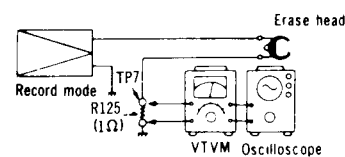
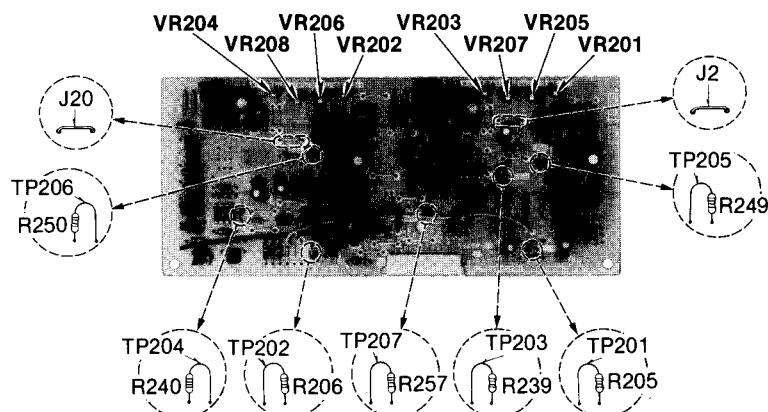

Fig. 11
Fig. 2
A Head position adjustment Condition: • Playback and pause mode	(The head adjusting plate is provided to adjust the tape touch of the head in cue or review mode.) 1 Press the playback button and pause button 2 Measure the space between the pressure roller and the capstan. Standard value: 0.5 ± 0.3 mm 3 If the measured value is not within the standard value, untighten screw (A), and slide the head adjusting plate in the direction of arrow (B) for adjustment.  Fig. 2
F Erase current Condition: - Record mode - Metal tape mode Equipment: - VTVM - Oscilloscope	- Test equipment connection is shown in fig. 11. - Place UNIT into metal tape mode. - Press the record and pause buttons. - Read voltage on VTVM and calculate erase current by following formula: $\text{Erase current (A)} = \frac{\text{Voltage across both ends of R125}}{1 (\Omega)}$ Standard value: 155 ± 15 mA (Metal position) 5. If measured value is not within standard, adjust as follows. Adjustment - Short the points (b) and (c) on the main circuit board diagram (see page 25). - Make measurement for erase current. - Make sure that the measured value is within the erase current of 140 mA to 170 mA. - If measured value is not within standard, short or open connection points (b) and (c) for adjustment (see table 2). Reference value: around 70 mA (Normal position) around 95 mA (CrO₂ position)
② Adjustment of VCA Condition: • Record stop mode • Input level controls ... MAX • Noise reduction selector ... disc/dbx tape Equipment: • VTVM • Oscilloscope • Resistor (100Ω, 3.9Ω)	Preparation before adjustment 1. Before adjusting VCA, from the device shown below using resistors of 100Ω and 3.9Ω (See fig. 8). 2. Set NR switch to dbx disc. Remove jumpers [J2 (L-CH) and J20 (R-CH)]. 3. Arrange connections referring to wire connection diagram (fig. 9 and 10), since 0V, +180mV and -180mV (DC) are applied in this order to pin 2 of IC201 (L-CH) and pin 2 of IC202 (R-CH).  Fig. 8  Fig. 9  Fig. 10 Connections when applying +180mV and 0V Adjust DC power supply and arrange connections so that +180mV or 0V can be applied to TP203 (L-CH) and TP204 (R-CH). Connections when applying -180mV Adjust DC power supply and arrange connections so that -180mV can be applied to TP203 (L-CH) and TP204 (R-CH). Adjustment procedure 1. Apply 0V to pin (2) of IC201 (L-CH) and pin (2) of IC202 (R-CH), and a horizontal line will appear on the screen of the oscilloscope. Use this line as the reference line. 2. Apply +180mV to pin (2) of IC201 (L-CH) and pin (2) of IC202 (R-CH) (See fig. 9), and check that the level is not more than 10mV from the reference line. If improper, adjust VR201 (L-CH) and VR202 (R-CH). 3. In the same way, apply -180mV to pin (2) of IC201 (L-CH) and pin (2) of IC203 (R-CH) (See fig. 10), and check that the level is not more than 10mV from the reference line. If improper, adjust VR201 (L-CH) and VR202 (R-CH). 4. Repeat steps 2 and 3, and adjust VRs so that the levels are within ±10mV when +180mV and -180mV are applied (fig. 11). 5. After adjustment, connect jumpers J2 (L-CH) and J20 (R-CH) (See fig. 2).  Fig. 11
③ Adjustment of dbx standard level Condition: • Record/stop mode • Input level controls ... MAX	NOTE: Be sure to perform the standard level adjustment in dbx Encode, followed by the standard level adjustment in dbx Decode.